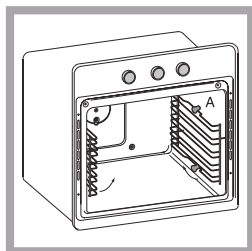

Fig.1
- Remove the side racks, lifting them away from the spacers 'A' (see Fig.1)